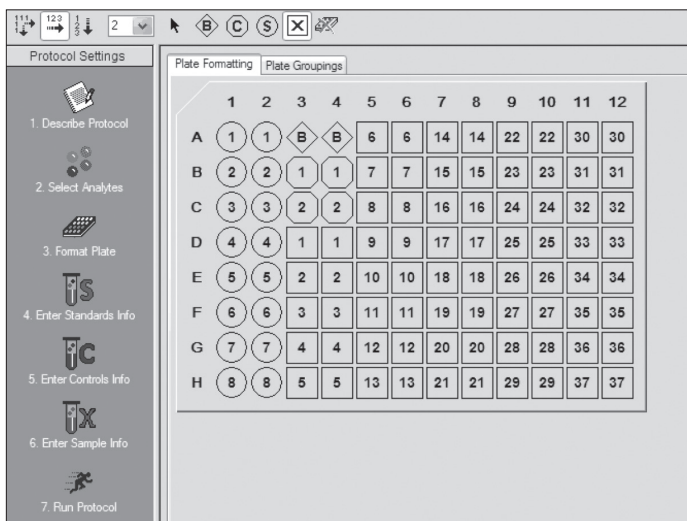

Fig. 4. Plate formatting.
3. Click **Format Plate** and format the plate according to the plate layout created in Section 1 (Plan Plate Layout). To modify the plate layout, follow the steps below (see Figure 4).
- b. Select the standards icon (S) and drag the cursor over all the wells that contain standards. Repeat this process for blanks (B), controls (C), and samples (X).